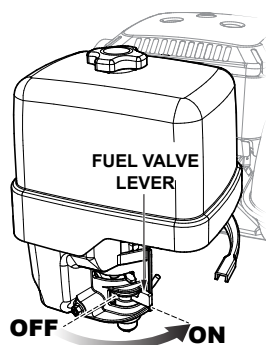

Figure 17. Fuel Valve Lever (ON)
1. Place the fuel valve lever (Figure 17) in the **ON** position.